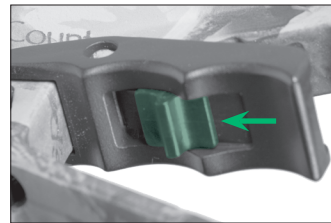

FIGURE 10
4. To lock the desired setting in place, locate the locking tab on the adjustment lever and slide it into place. To unlock, follow this step in reverse (Fig. 10).